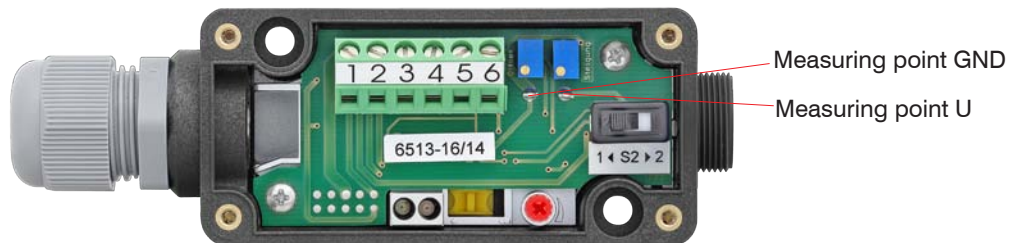
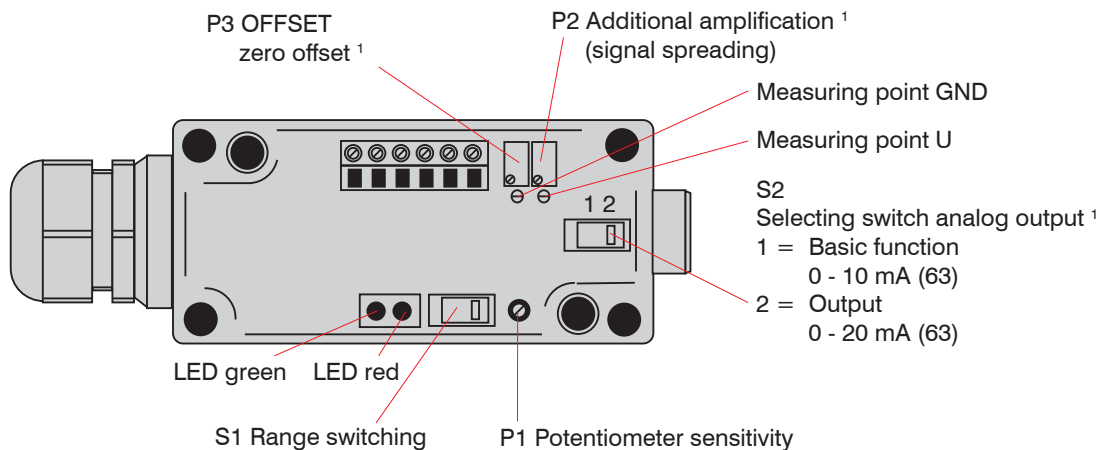

Fig. 16 View on operating and display elements models CLS-K-60 /-63 /-65
Fig. 17 Operating and display elements models CLS-K-60 /-63 /-65
- 3 A multimeter 0 – 10 VDC is connected to the measuring points "GND" and "U", see Fig. 16, see Fig. 17 (S2: "2"; 10 V = 20 mA) for the adjustment procedure.